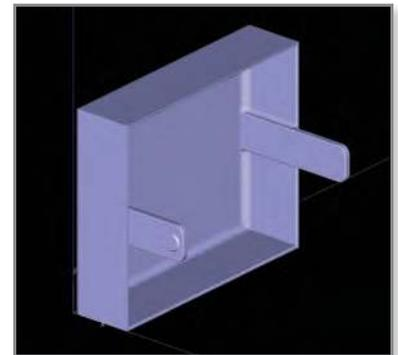

Figure 6: Functional features (tabs) are oriented perpendicular to the Z axis for strength.
STEP 3: Identify how the part will be used and any forces that will be acting upon it. Also identify any functional features. When orienting the part, these surfaces should be built perpendicular to the Z axis and in orientations that maximize the surface area of these features (Figure 6).